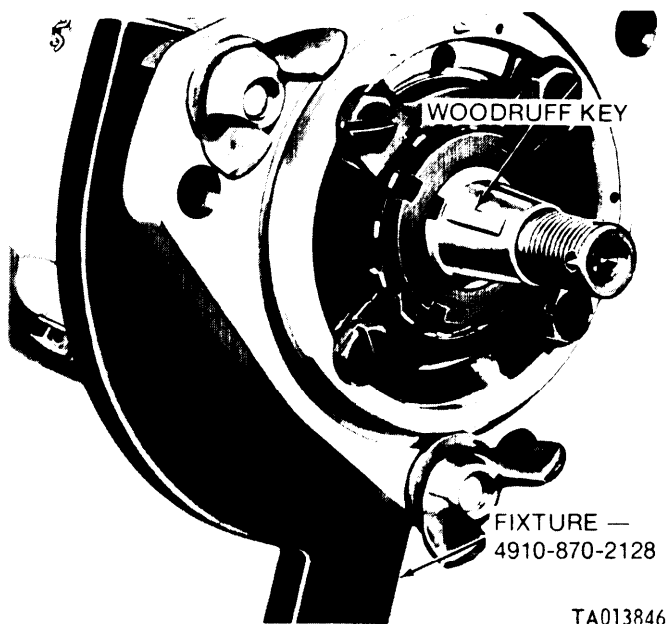
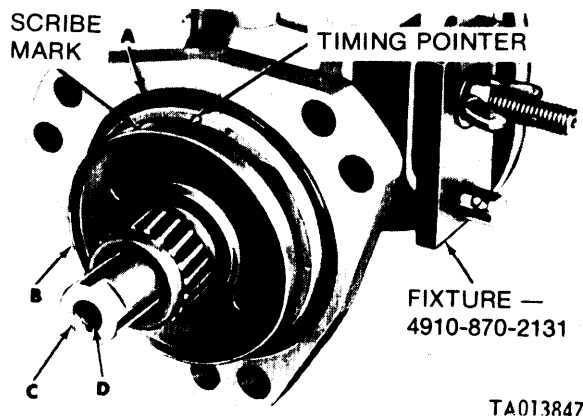

Figure 3-125. Removing fuel injection pump and fixture from vise.
Figure 3-126. Installing timing device hub on camshaft.
(1) Refer to figure 3-125. Install woodruff key on
(2) Refer to figure 3-126. Lubricate and install pump housing packing (A). Install timing device hub (B) on camshaft, aligning slot with woodruff key (fig. 3-125). Install camshaft nut (C) and torque tighten nut to 50-55 foot-pounds. Install camshaft nut setscrew (D) and torque tighten setscrew to 25-28 foot-pounds. Remove fixture from injection pump housing.